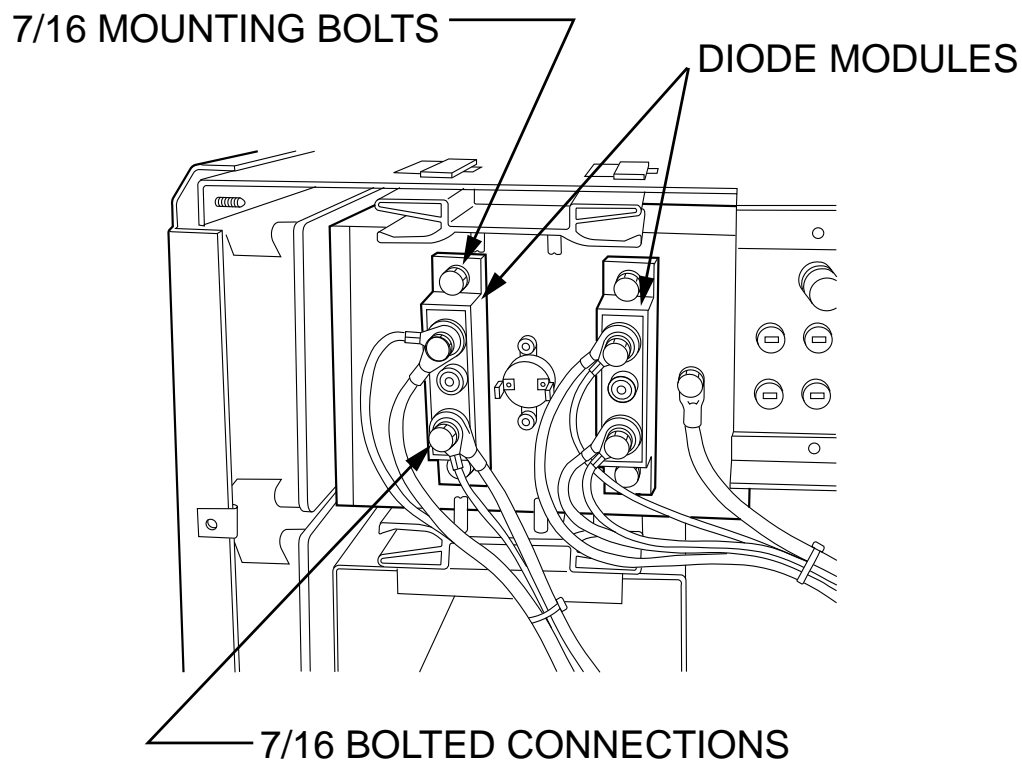

Figure F.19 Output Diode Assembly and Leads
3. Locate output diode assembly and associated leads. See Figure F.19.